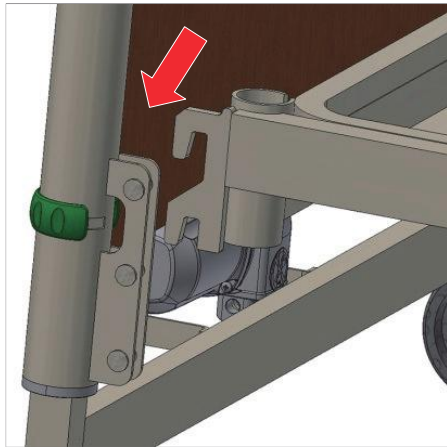

Figure 3: Foot section attachment to bed end
8. Lift the foot platform section onto the bed end (*Figure 3*) and clip into the bracket, ensuring that the bed end is fully clipped in place.